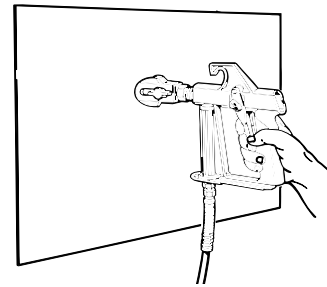

Figure 23 - Practice on scrap material.
7. When paint reaches spray tip, spray a test area to check spray pattern. See Figure 23.